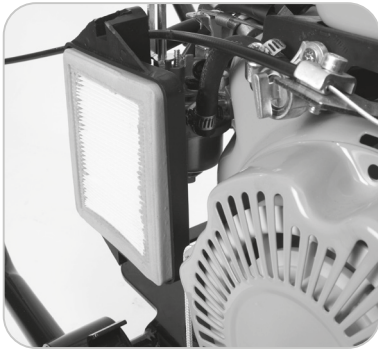

Fig. 17
- Remove the Air Filter Element from the housing for inspection. (**Fig. 17**) If the paper element of the air filter shows signs of severe discoloration and clogging by dirt, dust, etc., it should be replaced.